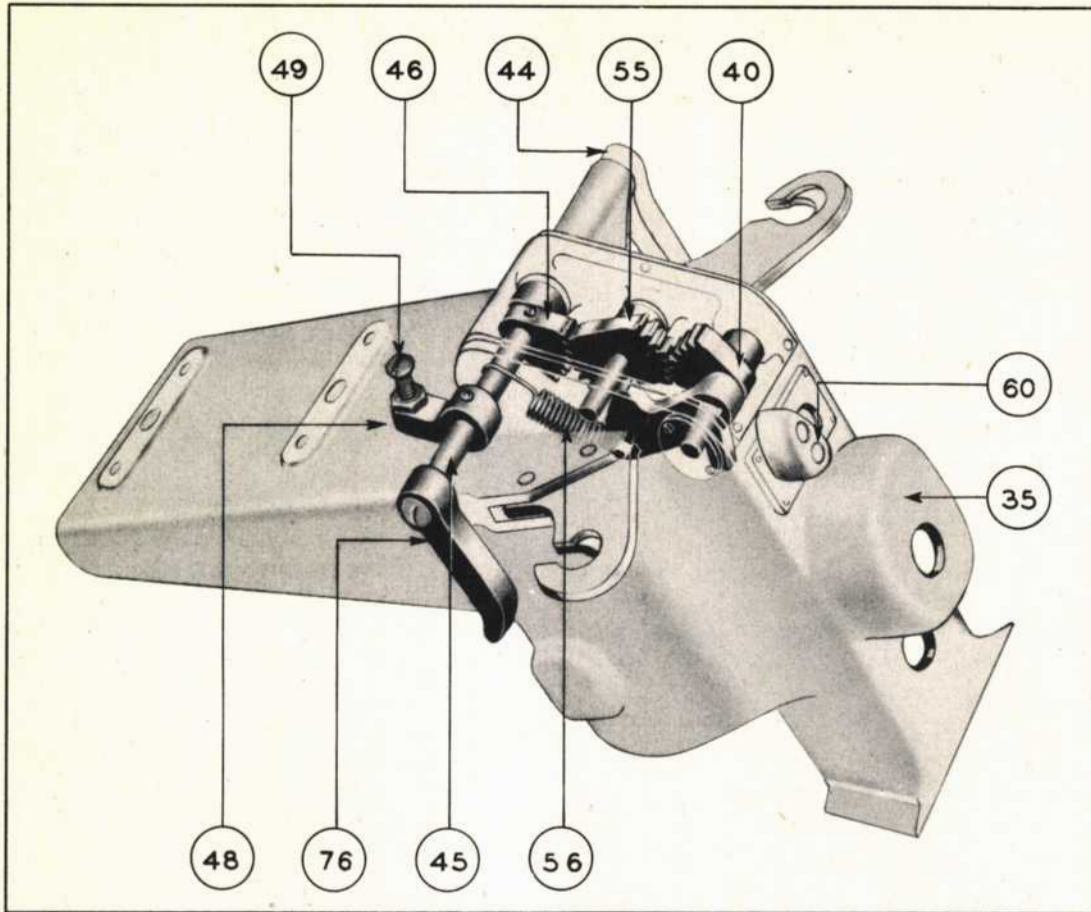

Figure 4—Back Guard Assembly
(2) THE TYPE E-11.—The back guard assembly (35, figure 4) houses safety (60), triggers (44) and (76) mounted on trigger shaft (45) which fire guns through upper trigger gear (46) intermediate trigger gear (55) and lower trigger gear (40). Control and adjustment of firing triggers is accomplished by means of screw (49) in the trigger adjustment stop (48). Rapid return of triggers to normal position is assured through the use of the trigger return spring (56).